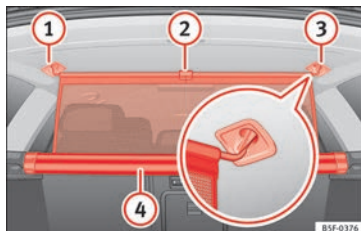

Fig. 167 In the luggage compartment: pulling out and securing the net partition.
- Pull up handle »» Fig. 167 (2) to remove the net from the casing (4).
- Hook in the net partition on the right side (3) (magnified image).
- Hook in the net partition in the left side housing (1) pulling the rod.